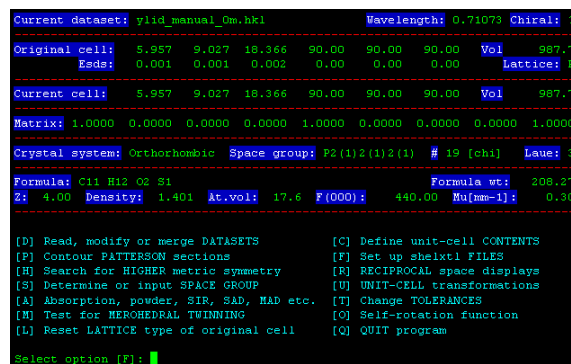

Figure 8.18 - Requesting output files
3. The next default action for XPREP is to write out the files necessary for the structure solution process (see Figure 8.18). Press Enter to accept.